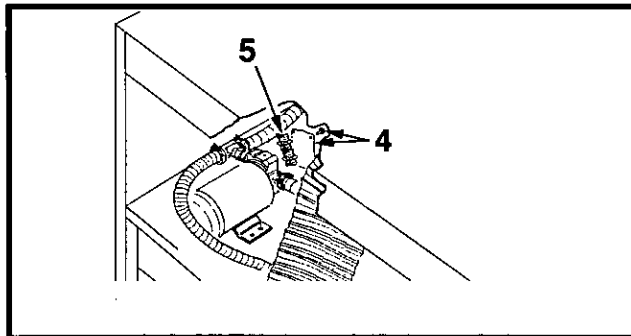

Figure 5-12 Water Pump by-pass
2. Remove pump end cap (4, Figure 5-12)
3. Remove the gear set (5, Figure 5.12).